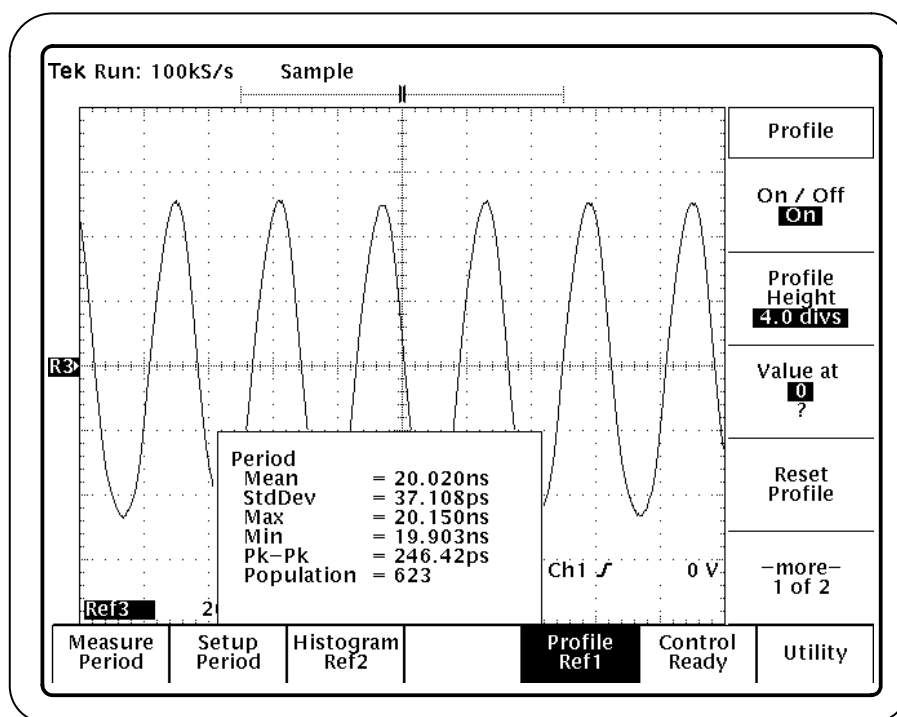

Figure 10: Profile format menu
16. Press Profile (main) → On/Off (side) to select On. Ref1 appears under Profile to indicate that the results will be stored in Ref1. See Figure 10.